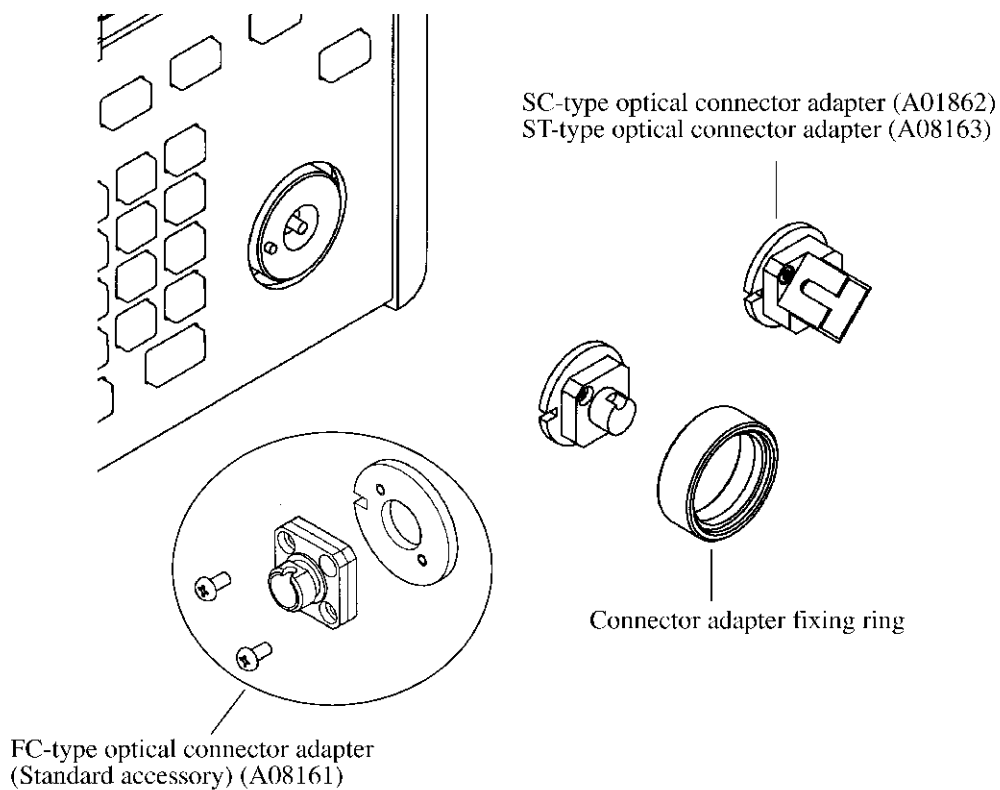

Figure 1-13 Light Input Part Structure
1. Remove the adapter ring (refer to Figure 1-13).